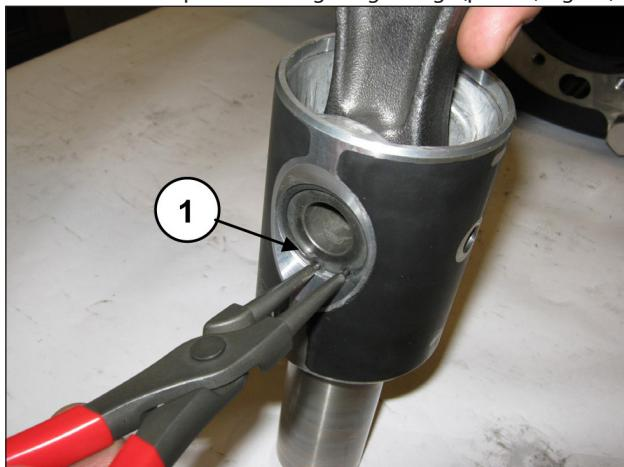

Fig. 39
Remove the two spindle locking Seeger rings (pos. ①, Fig. 39).
Insert the conrod in the piston guide (pos. ①, Fig. 41) and then insert the spindle (pos. ①, Fig. 40). Apply the two shoulder Seeger rings (pos. ①, Fig. 39).